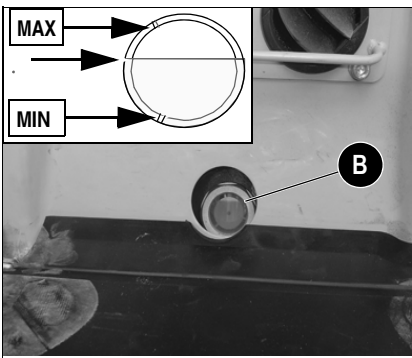

Fig. 118: Oil level indicator on the hydraulic oil tank
- The oil level must be about 1 cm over the centre, between positions **MIN** and **MAX**, as shown by the arrows in fig. 118.